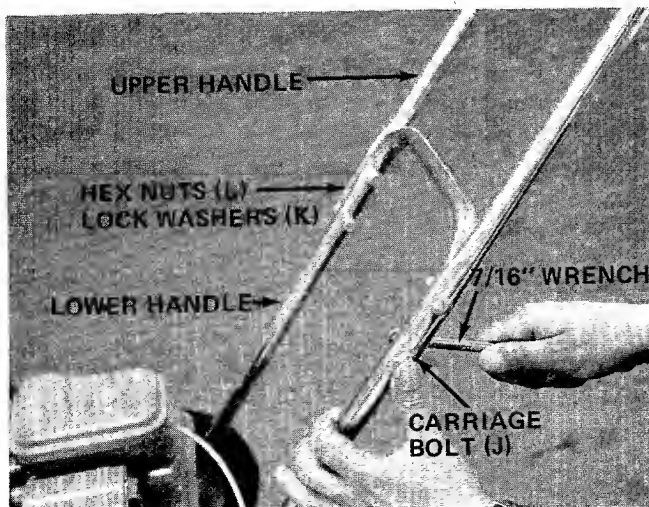

FIGURE 6.
6. Place upper handle in position over lower handle. Line up holes and secure with four carriage bolts (J), lock washers (K), and hex nuts (L). See figure 6. A 7/16" wrench is required.